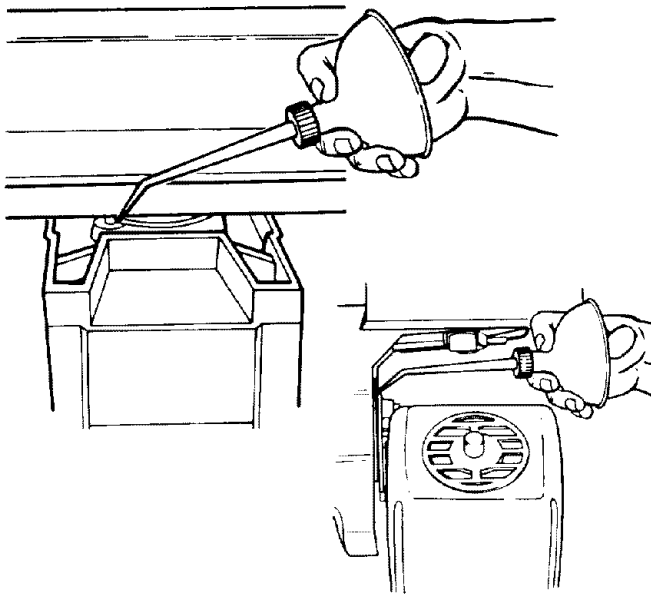

Fig. 173 - Swivel and Bevel Index Pins
- Apply a few drops of oil along the *swivel index pin* and the *bevel index pin* only if the pins have a tendency to stick. Swivel to in-rip or out-rip for easy access to the *swivel index pin*. Bevel to 45° and *bevel index pin* can be easily accessed behind the *yoke* as illustrated (Figure 173)